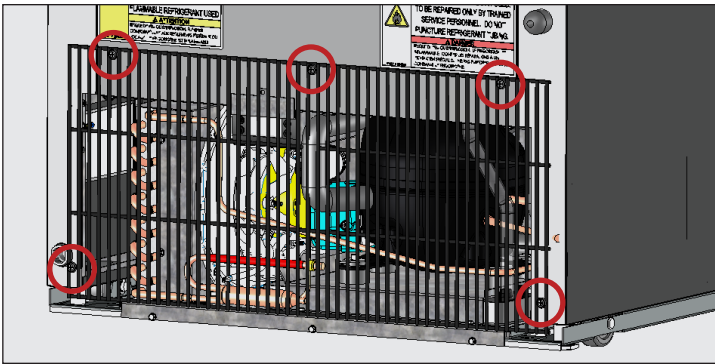

Fig. 1. CVM-11/13 rear grill screw locations. Your application may differ.
2. Remove the rear grill. See figs. 1 and 2.